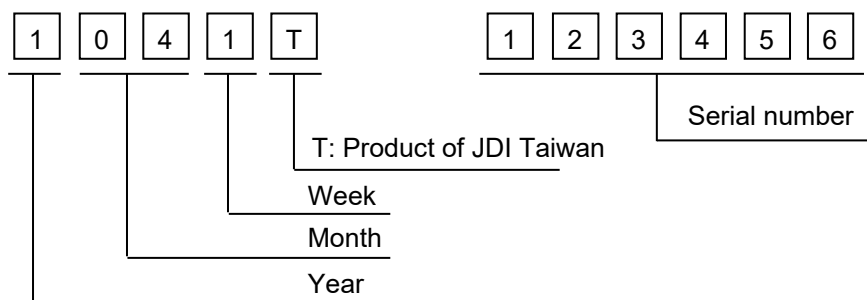

Fig. 14.1
1) The lot mark is showing in Fig.14.1. First 4 digits are used to represent production lot, T represented product of JDI Taiwan, and the last 6 digits are the serial number.